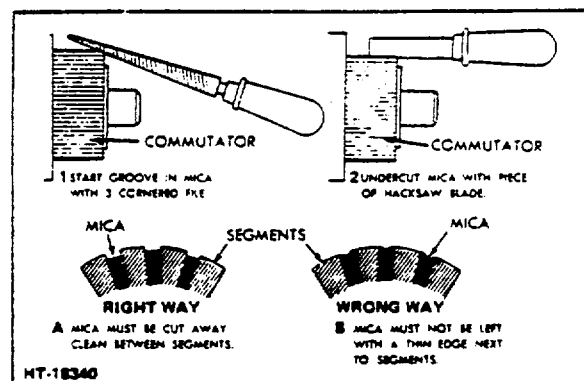

Figure 5-3. Undercutting Mica
2. Undercut mica between bars to a depth not exceeding .030". Undercut must be full width of mica and flat at bottom. After undercutting, clean out slots to remove any dirt and copper dust. (See Figure 5-3.)